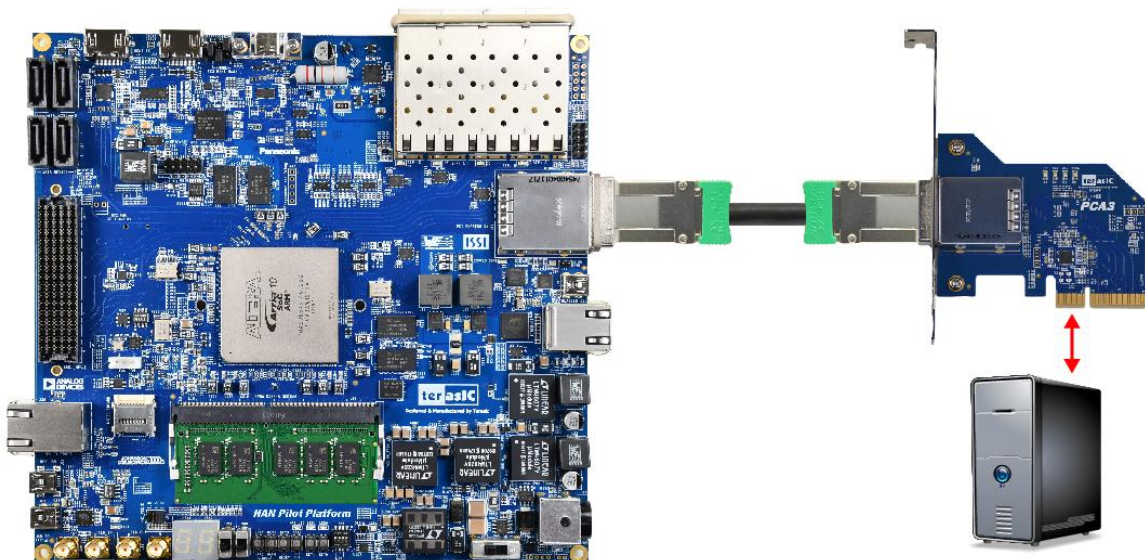

Figure 5-10 FPGA board connect to PC
2. Install the FPGA board on your PC as shown in **Figure 5-10**.